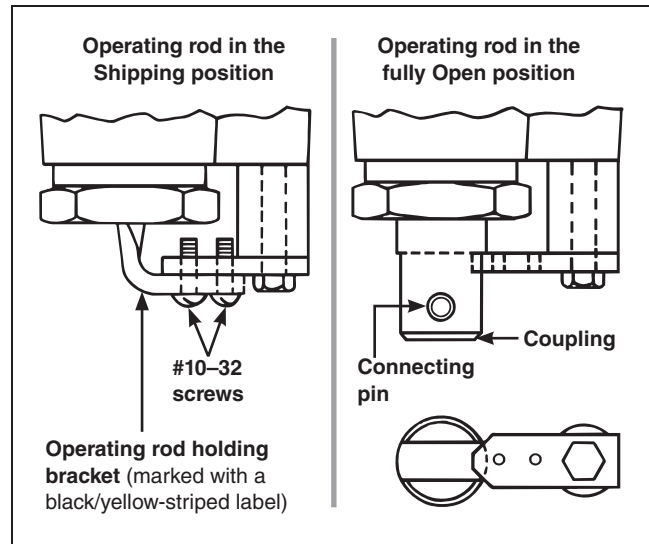

Figure 14. Preparing the interrupter for attachment to the insulating support column.
- (a) Remove and discard the two #10–32 screws that connect the operating-rod holding bracket (marked with a black/yellow-striped label) for shipment. See Figure 14.
- (b) Pull the holding bracket to move the operating rod to its fully **Open** position. See Figure 14.
- (c) Remove the connecting pin used to attach the holding bracket to the coupling. Retain the connecting pin for re-use in Step 4(h) on page 19). Discard the holding bracket. See Figure 14.